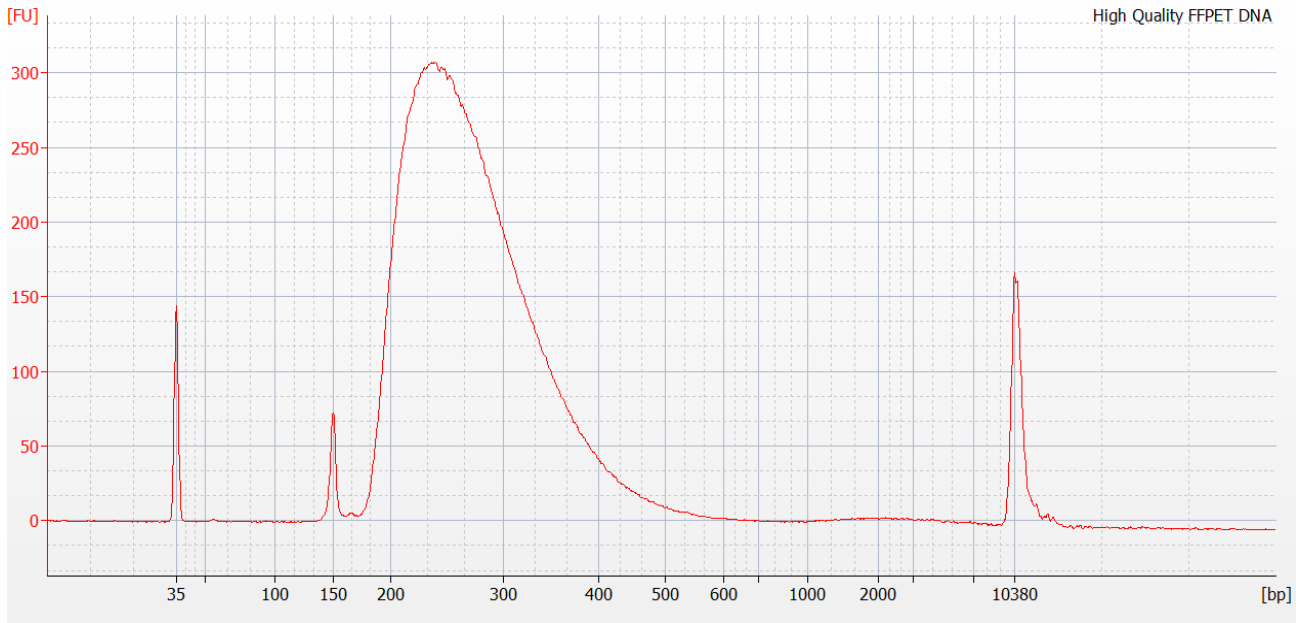
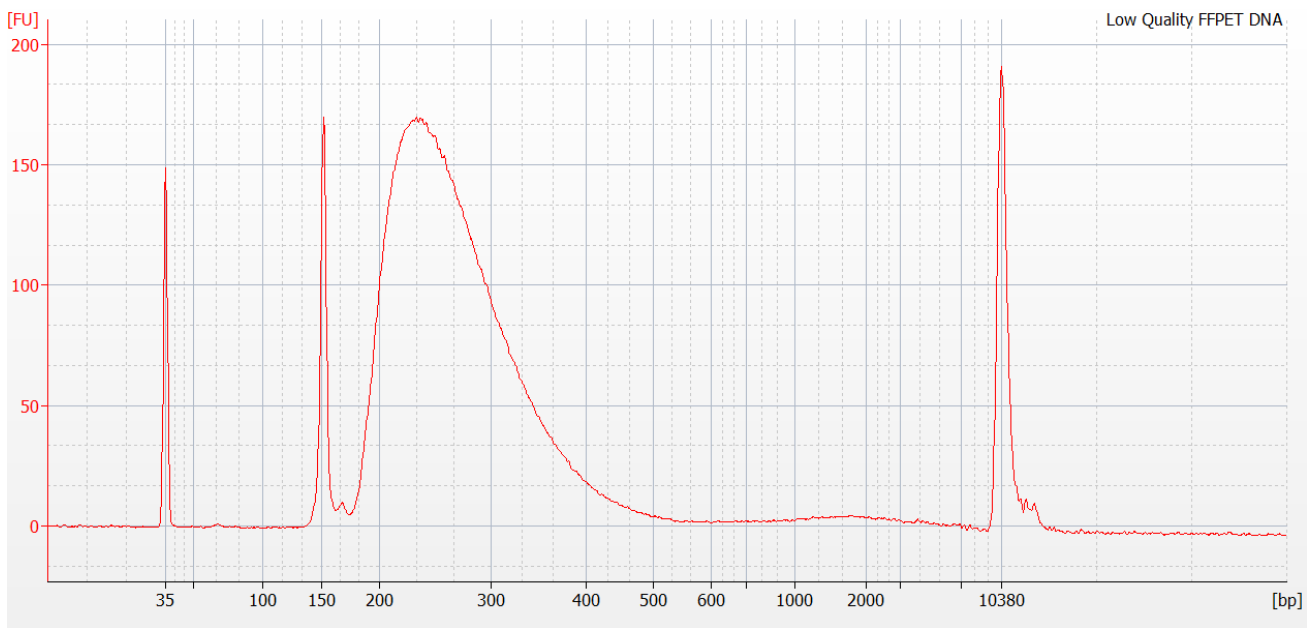

Figure 3: Example of a Pre-Capture amplified high quality FFPET sample library analyzed using an Agilent Bioanalyzer High Sensitivity DNA assay.
Figure 4: Example of a Pre-Capture amplified low quality FFPET sample library analyzed using an Agilent Bioanalyzer High Sensitivity DNA assay.
- a. Amplified Sample Libraries (Pre-Capture libraries) should display a fragment size distribution in the range of 150 to 500 bp, with an average size of ~ 320 bp for high quality gDNA or FFPET samples (Figure 3). For lower quality FFPET samples, the average size may be lower (Figure 4). Sharp peaks may be visible in the region < 150 bp. These peaks correspond to unincorporated primers, primer-dimers or carry-over adapter-dimer and will not interfere with the capture process.